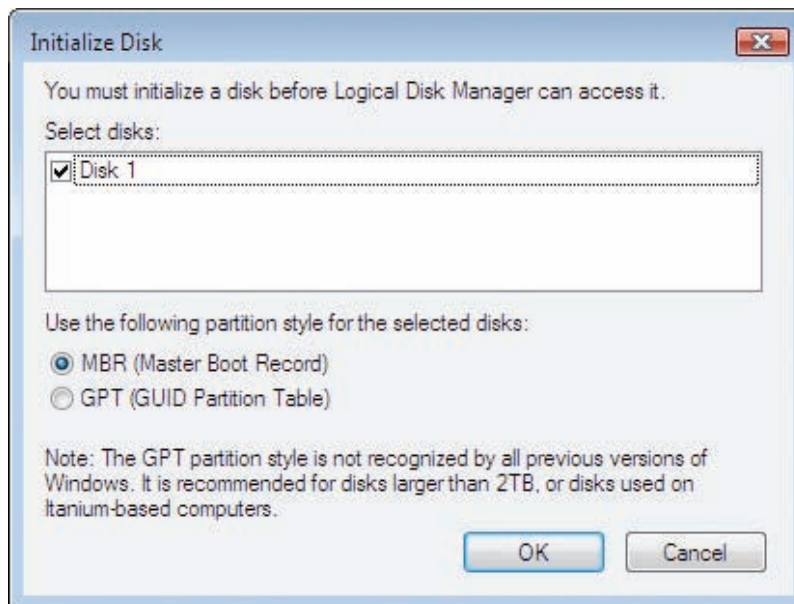

Figure 8-29 Select MBR as the partition style for the new drive
4. On the next screen (see Figure 8-29), select **MBR (Master Boot Record)** and click **OK**. The drive will be initialized as a Basic Disk.